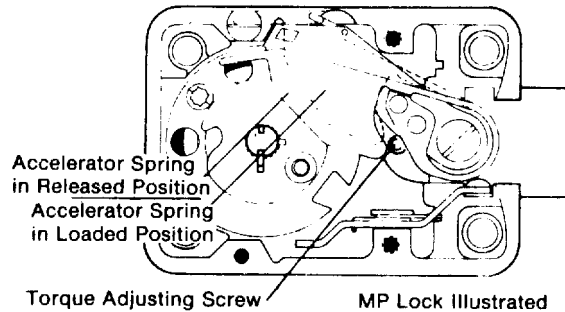

Figure 1
1. Remove lock cover. Place lock bolt in the extended position and the accelerator spring in the loaded position (Fig. 1—**CAUTION: Do not remove the drive cam**).